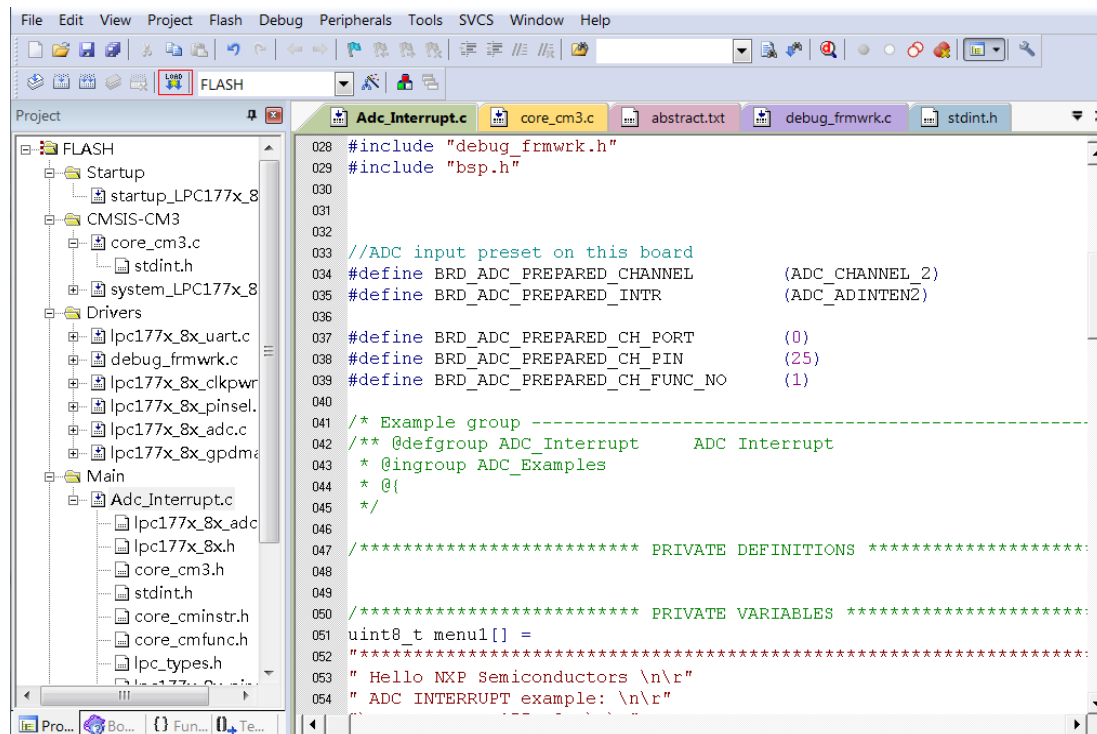

Figure 3-12
(3) Click download button, download program to FLASH in LPC1788. Refer to figure 3-12.